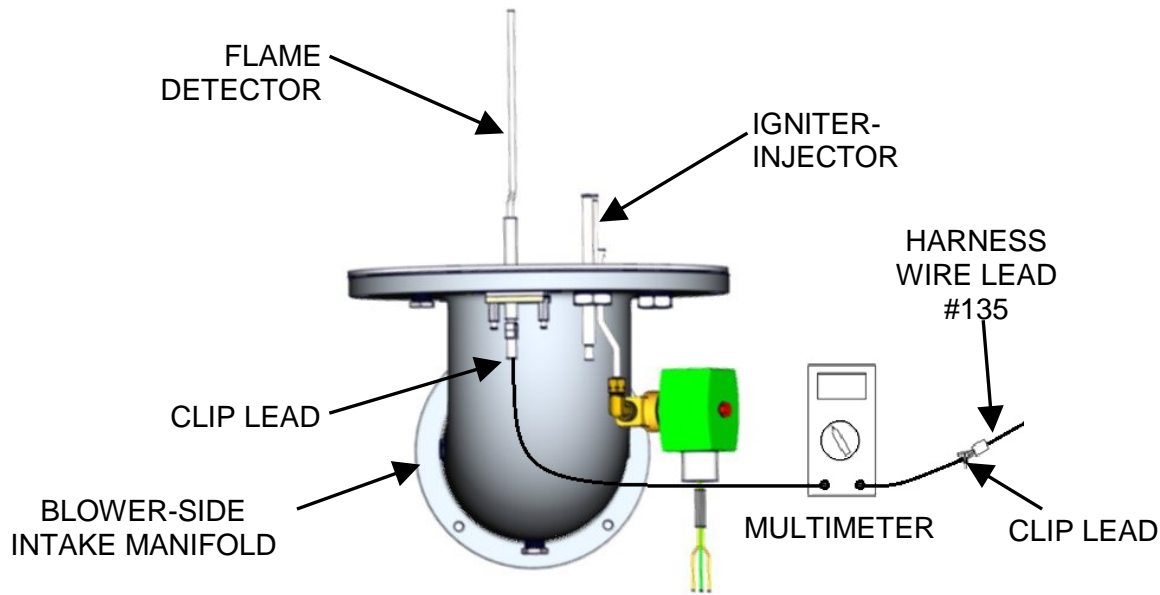

Figure 4-3. Flame Strength Set-Up Using Multimeter
During Combustion Calibration, the flame strength generated by the flame detector is measured using a multimeter set to the μA scale. The flame detector is mounted on the flange of the blower side intake manifold as shown in Figure 4-3.
1. Refer to Figure 4-3 and remove the right side panel from the unit to access the flame detector.
2. Disconnect the flame detector wire lead #135 from the detector and connect the multimeter in series with the wire lead using alligator clips as shown in Figure 4-3.